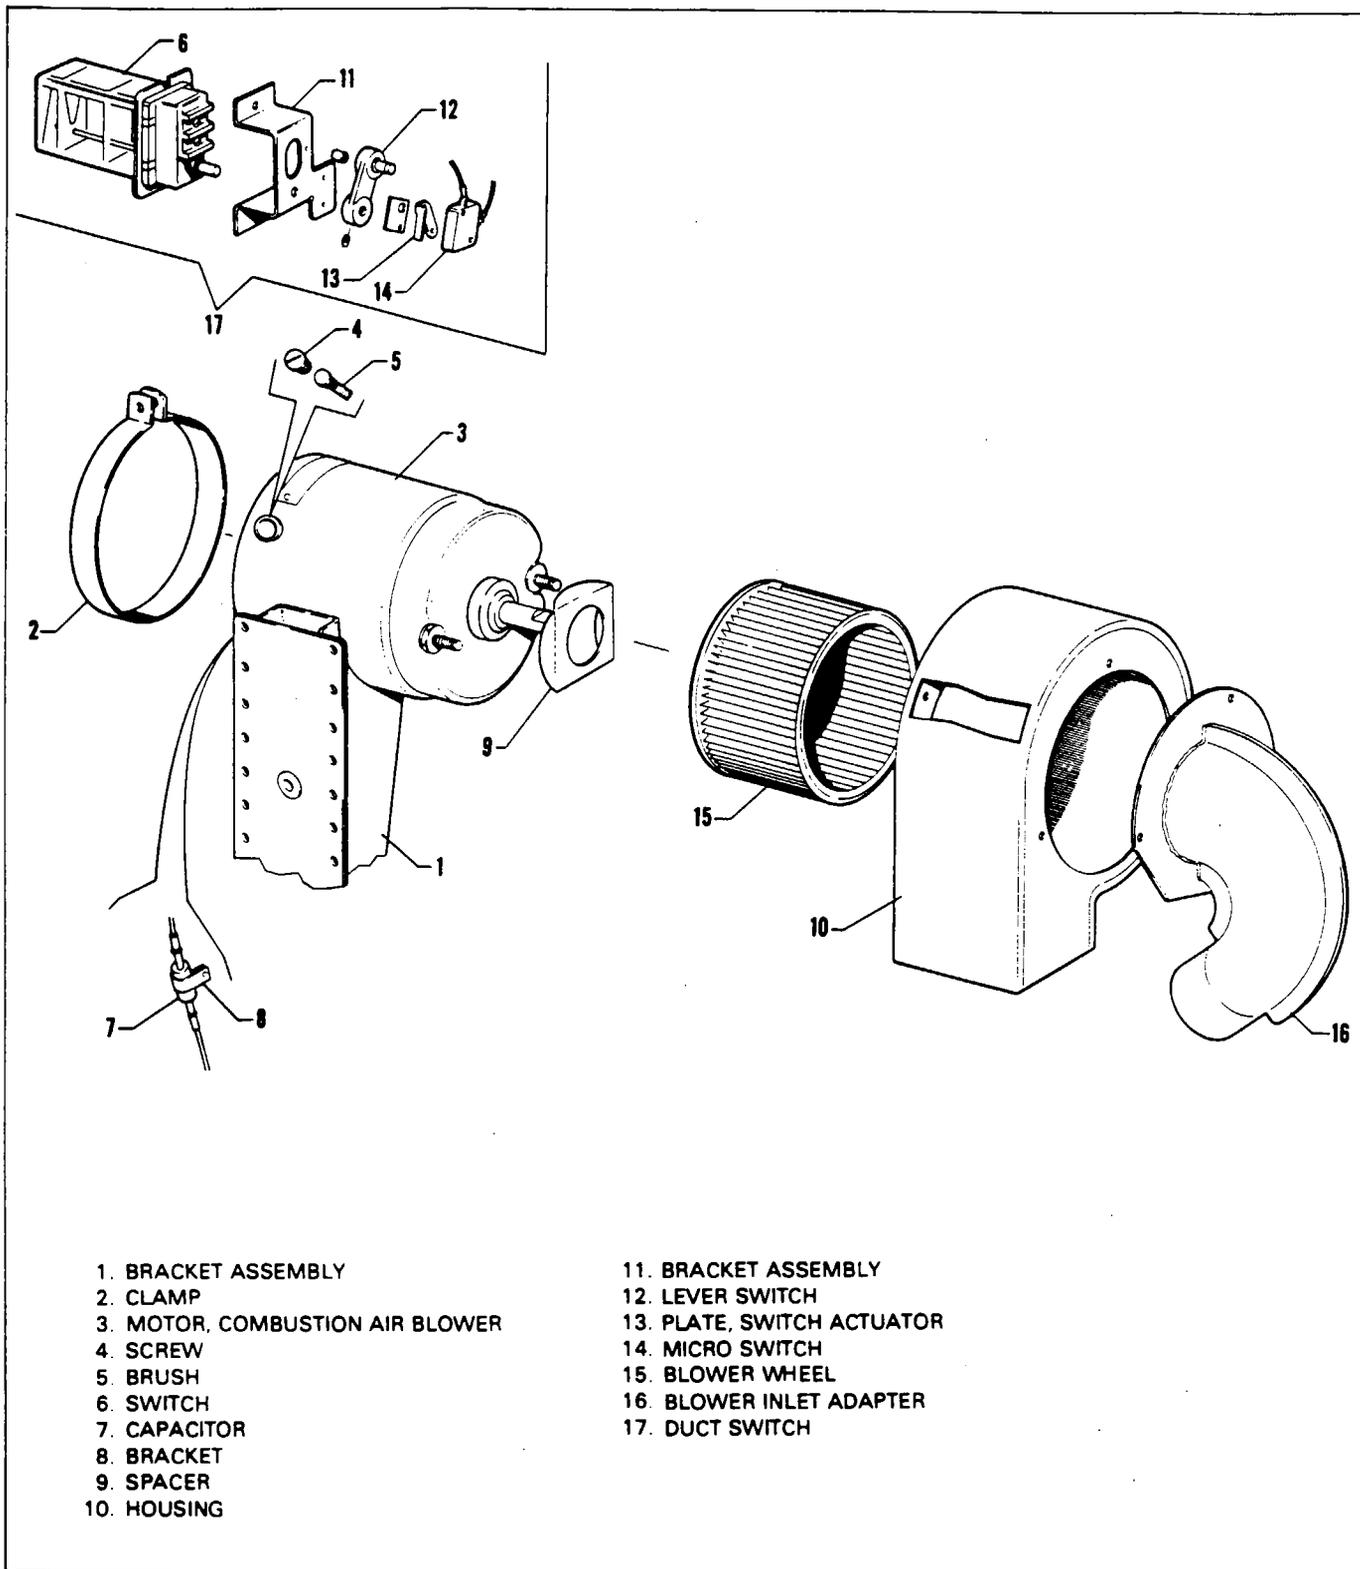

Figure 21-8. Exploded View of Combustion Air Blower and Motor Assembly
**REMOVAL OF COMBUSTION AIR BLOWER.** (Refer to Figure 21-8.)
**REPLACING MOTOR BRUSHES.** (Refer to Figure 21-8.)
**INSTALLATION OF COMBUSTION AIR BLOWER.** (Refer to Figure 21-8.)
**DISASSEMBLY OF COMBUSTION AIR BLOWER ASSEMBLY.** (Refer to Figure 21-8.)
### **REASSEMBLY OF COMBUSTION AIR BLOWER ASSEMBLY. (Refer to Figure 21-8.)**
**REMOVAL OF DUCT SWITCH. (Refer to Figure 21-8.)**
**INSTALLATION OF DUCT SWITCH.** (Refer to Figure 21-8.)